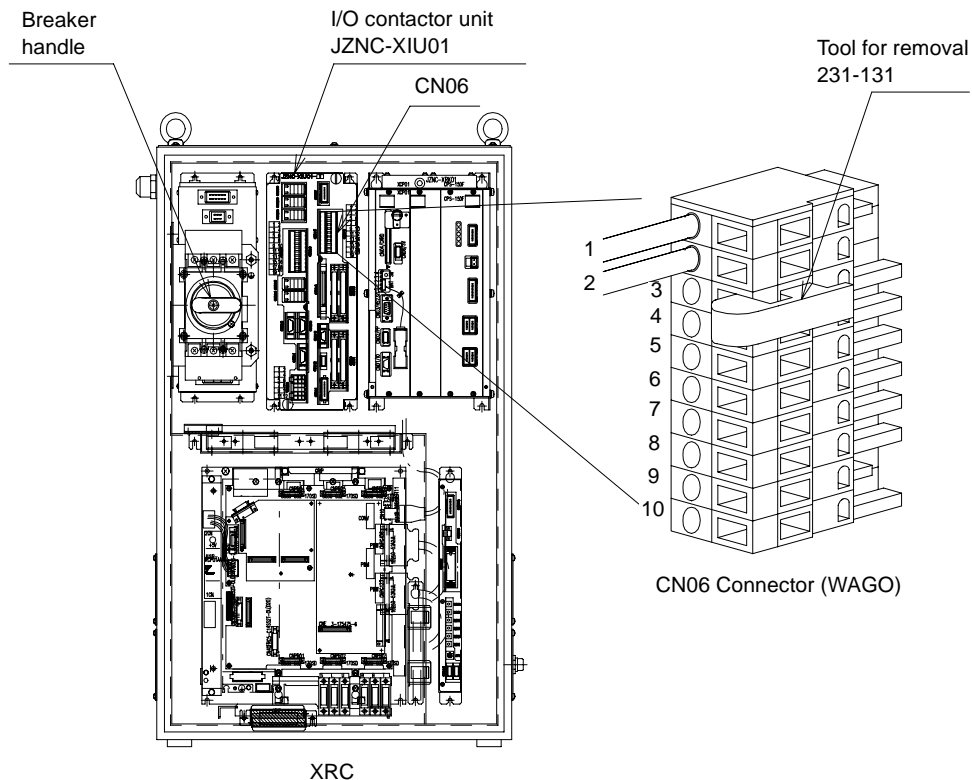
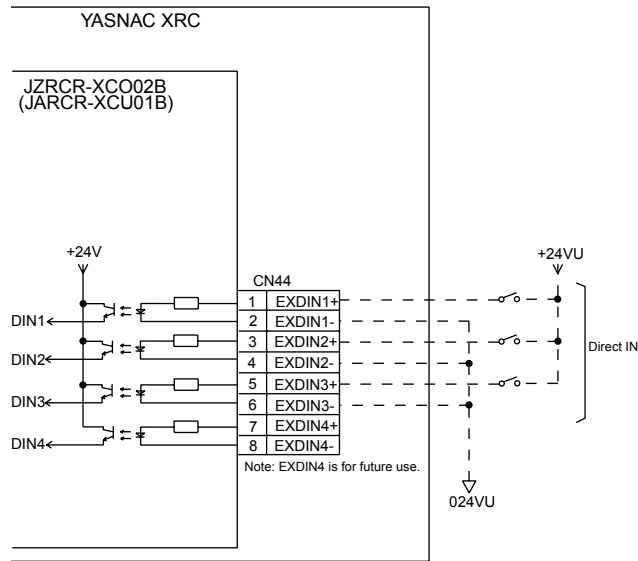

Fig 1 Direct IN Signal DIN1 Connection Diagram
Fig 2 Direct IN Signals Connection Diagram
2. Remove the CN06 connector of the I/O contactor unit, then make connection as shown in Fig. 1.
(Fig.1 shows the connection diagram for a direct IN signal DIN1. For direct IN signals DIN2 to 4, refer to Fig. 2.)